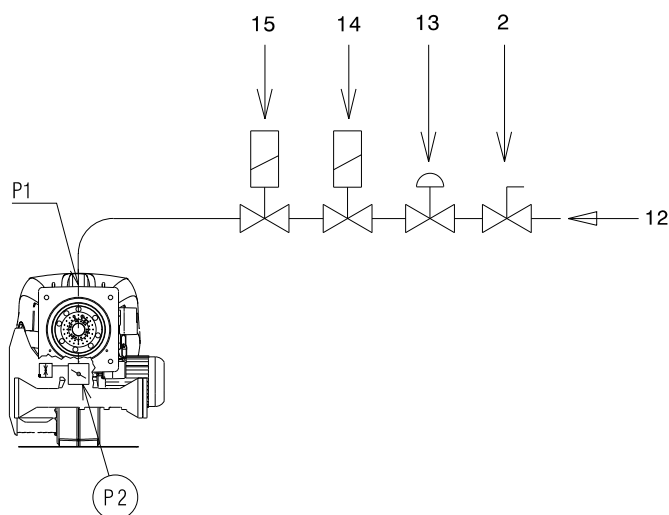

Fig. 28
Pressure loss at gas butterfly valve P2)(Fig. 28) with maximum opening: 90°.
- subtract the pressure in the combustion chamber from the pressure of the gas at test point P1)(Fig. 28).
Gas pressure at test point 1) (Fig. 28) = 35.2 mbar
To calculate the required gas pressure at test point P1) (Fig. 28), set the maximum modulating output required from the burner operation:
- Read, on the right (column 1), the pressure at the test point P1)(Fig. 28).
pressure required at test point P1)(Fig. 28).
Key (Fig. 28)